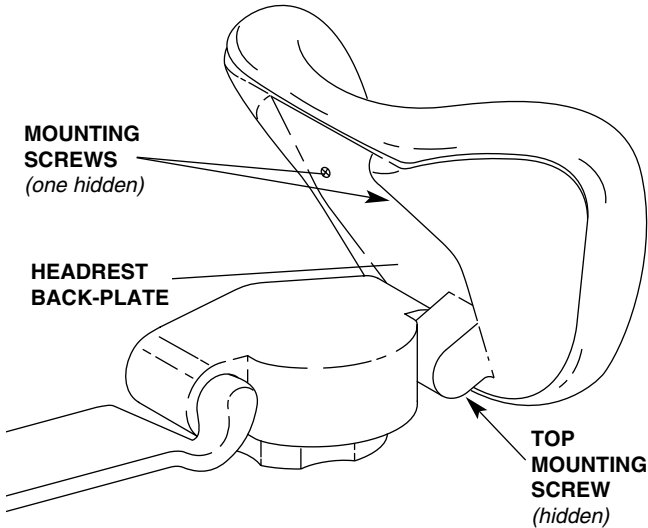

Figure 9. Replacing the Headrest Upholstery
3. Rotate the headrest back 45° to expose the two Phillips mounting screws on the lower headrest back-plate (*see Figure 9*). Remove the two screws and the headrest cushion.